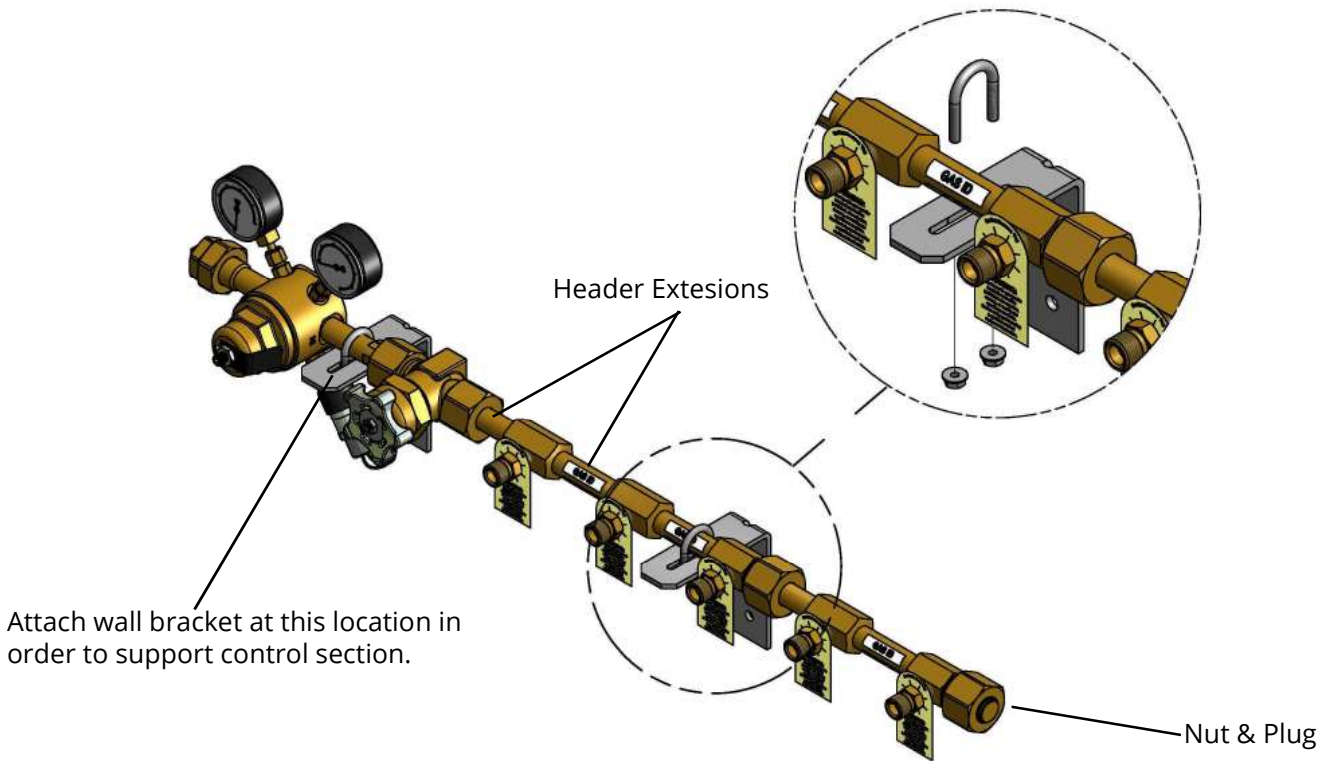

Figure 11
1. Attach master valve to the control assembly. Attach appropriate header extension to control section. Position cylinder inlet connections of each header extension so they are pointing out. Additional header extensions may be attached end to end if required. Install large nut and plug on end of last header extension (Figure 11).
6. One more wall bracket should be installed to support left side of reserve header assembly as shown in Figure 11.